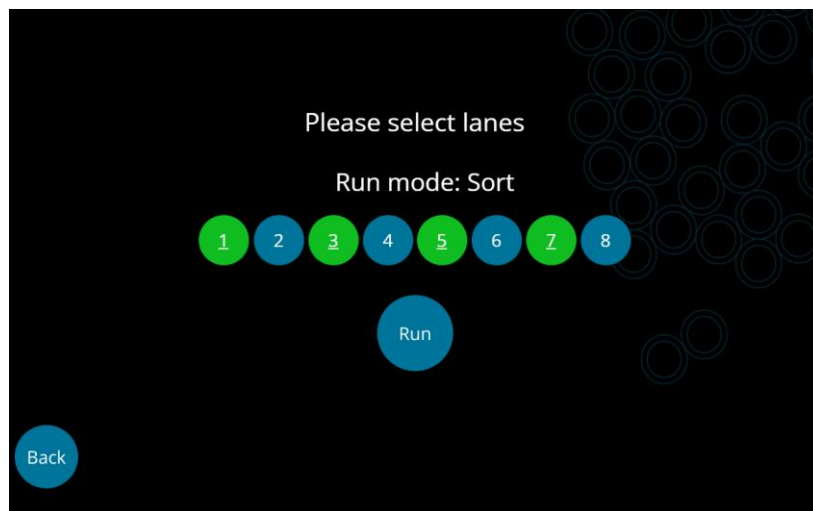

Fig. 3.8. Selecting the lanes to be used. Green indicates selected lanes in the cartridge, and dark blue indicates the remaining lanes not selected.
6. The lanes to be processed are selected by pressing the numbers for the corresponding instrument lanes 1–8 on the screen. When selected, the buttons turn green (Fig. 3.8).